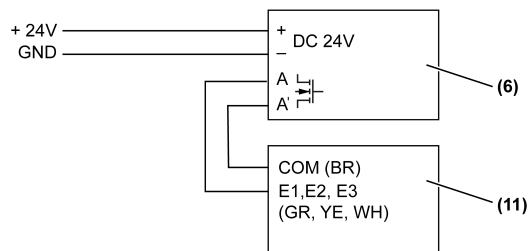

Figure 9: Connection to flush-mounted actuators: Switch actuator, 2-gang / blinds actuator, 1-gang, Switch actuator, 1-gang, Universal dimming actuator, 1-gang
| (Figure 9) | (11) Switch actuator, 2-gang / blinds actuator, 1-gang, Art. no.: 230021SU, Switch actuator, 1-gang, Art. no.: 230011SU, Universal dimming actuator, 1-gang, Art.no.: 390011SU |